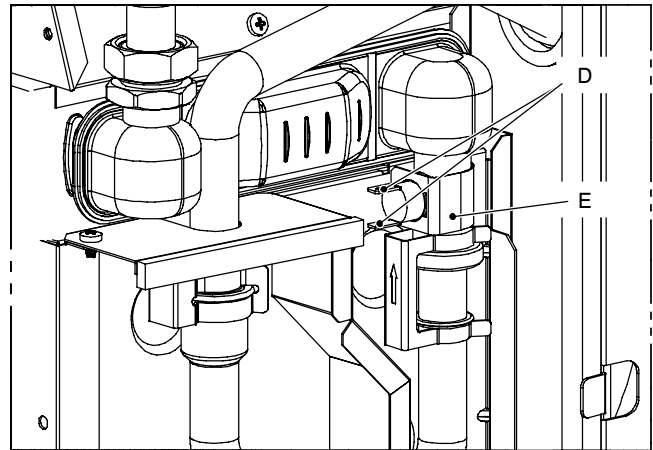

Fig. 89
- 3 Disconnect the wiring *D* (detail in Fig. 89).